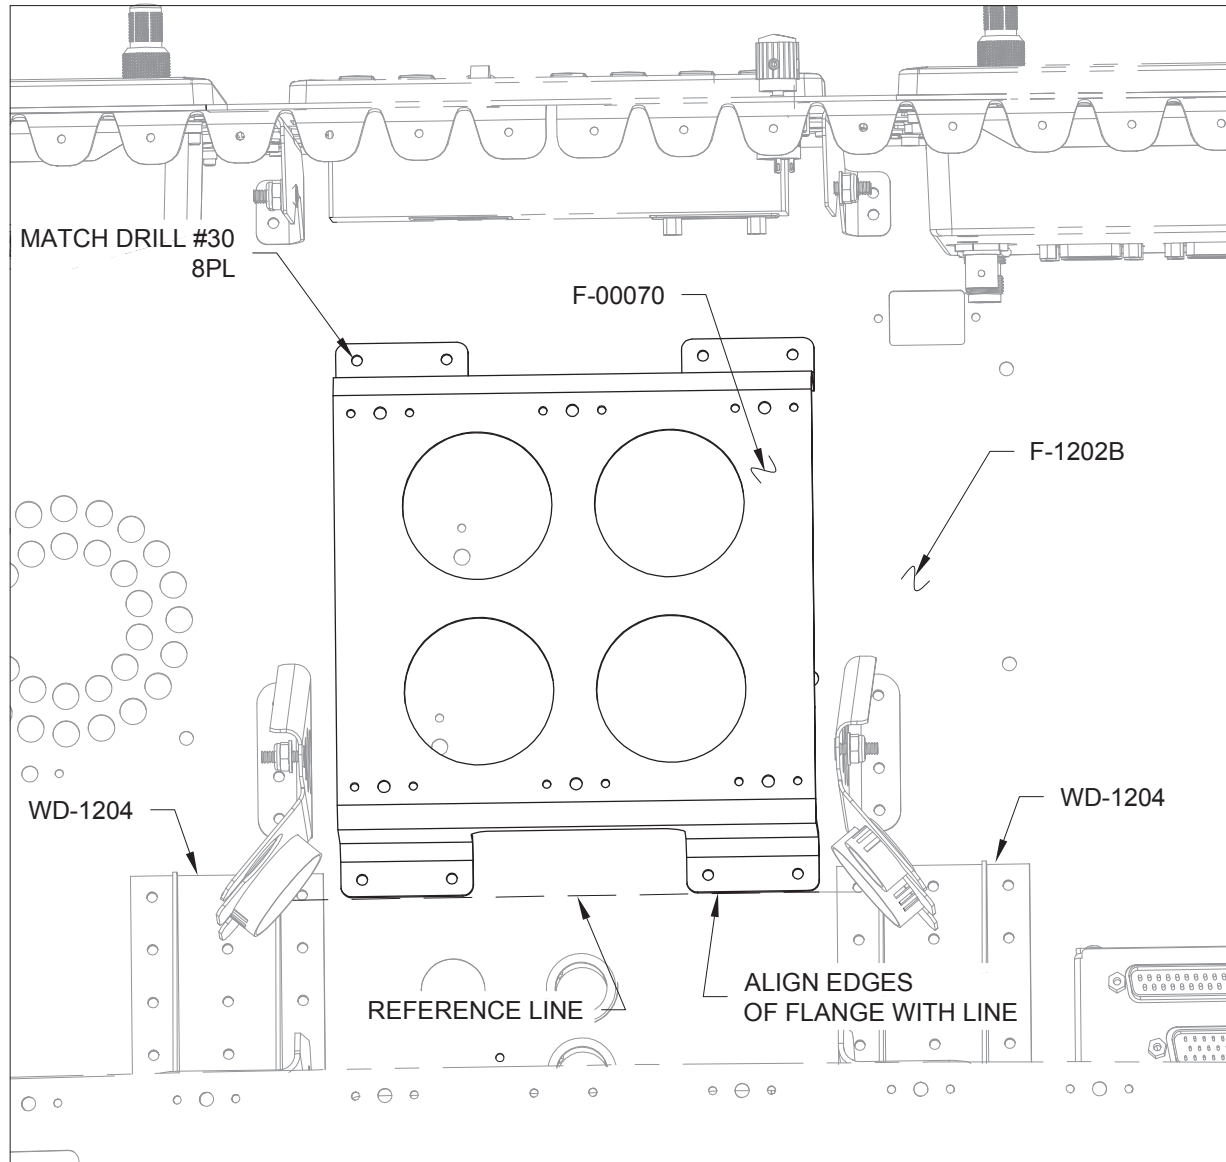

FIGURE 1: MATCH DRILLING THE PANEL BASE
- Step 1: Place the F-00070 GDL 39R Bracket on the upper face of the F-1202B Panel Base. See Figure 1.
- Step 2: Draw a reference line on the F-1202B Panel Base connecting two rivets as shown in Figure 1.